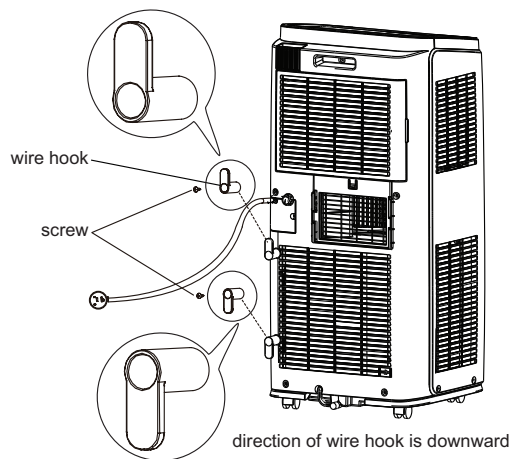

Fig.1
- Assemble the wire hook at the back of the unit with screws.(As show in Fig.1)